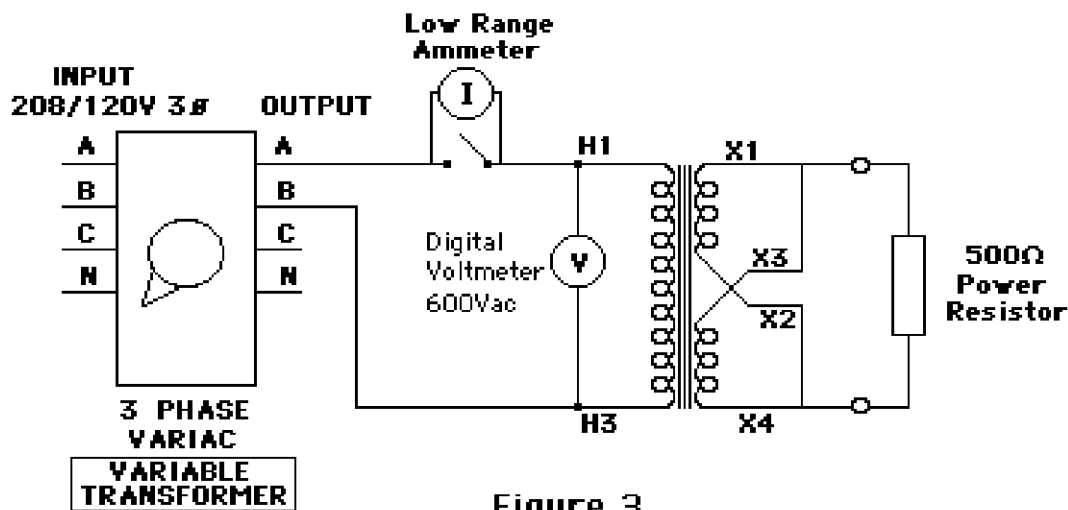

Figure 3
14. Construct the circuit of figure 3. The load will be 500Ω power resistor provided by your lab instructor.